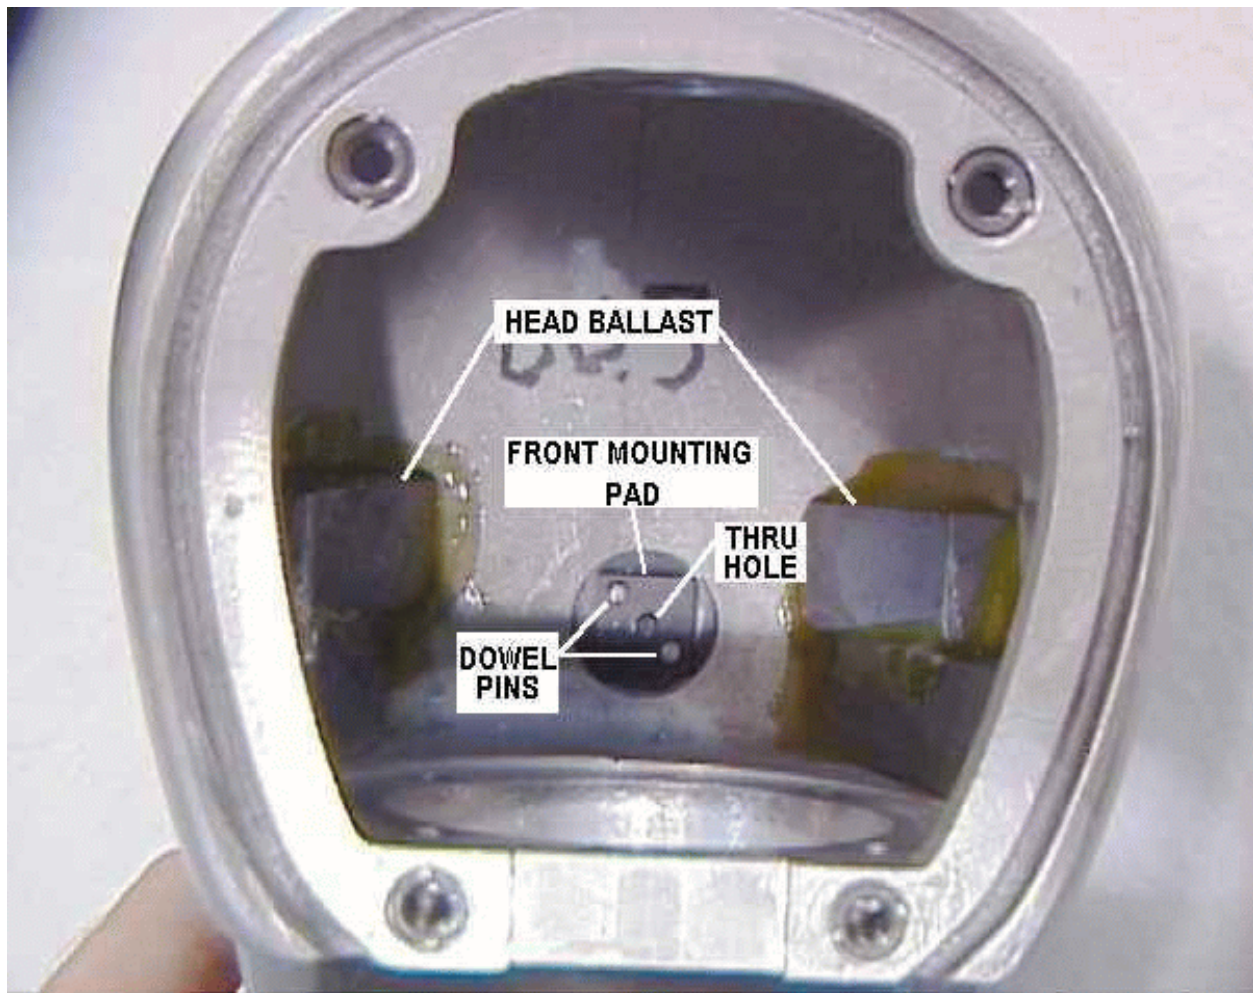

Figure 3.1 -- Front mounting pad (permanently installed) (left and top pads are not shown)
- a. These permanently fastened pads have two small dowel pins and a thru hole for a #4-40 x 3/8" SHCS for attaching to outboard mounts. A typical permanently fastened mounting pad as viewed from the rear side of the skull is shown in Figure 3.1.